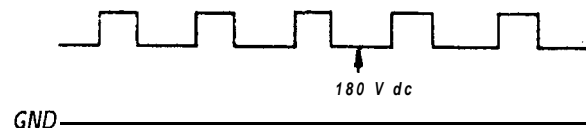

Fig. 3-5.
1. Adjust BKG VRs (RV 702, RV 704, and RV 706) so that voltages on the red, green and blue cathodes are 180 V dc with an oscilloscope as shown in Fig. 3-5.